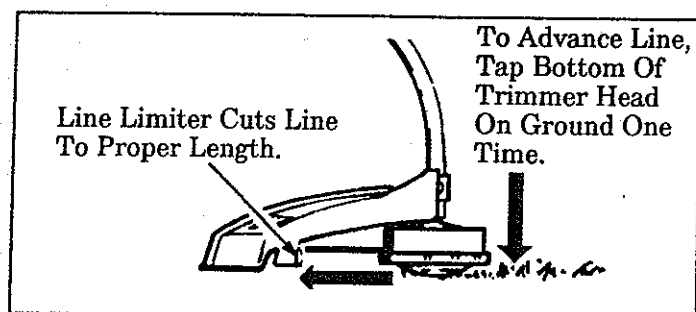

Figure 12
- Always keep the shield in place when the tool is being operated. Figure 12.
3. Tap the bottom of the trimmer head lightly on the ground one time. See Figure 12. Approximately 2 inches of line will be advanced with each tap.